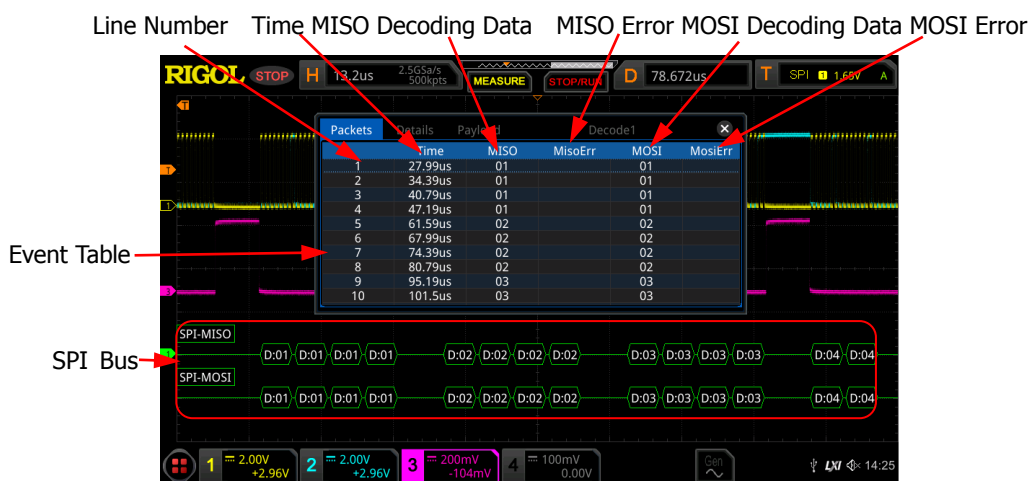

Figure 11-8 SPI Decoding Event Table
- Open or close the event table: Click **Event Table** continuously to enable or disable the event table. When you enable the event table, the following figure is displayed, as shown in Figure 11-8. You can click on the icon  at the upper-right corner of the table to close the event table. Besides, when the operating status is "STOP", you can select a specified line and view the corresponding decoding information.